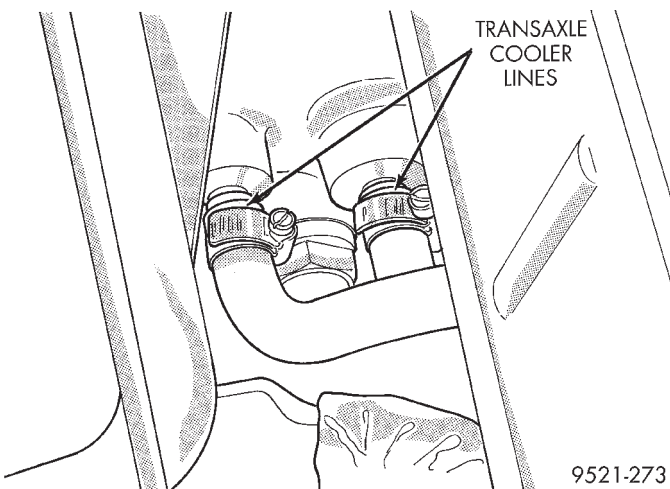

Fig. 44 Transaxle Cooler Lines
- (5) Remove dipstick tube.
(6) Remove transaxle cooler lines (Fig. 44).